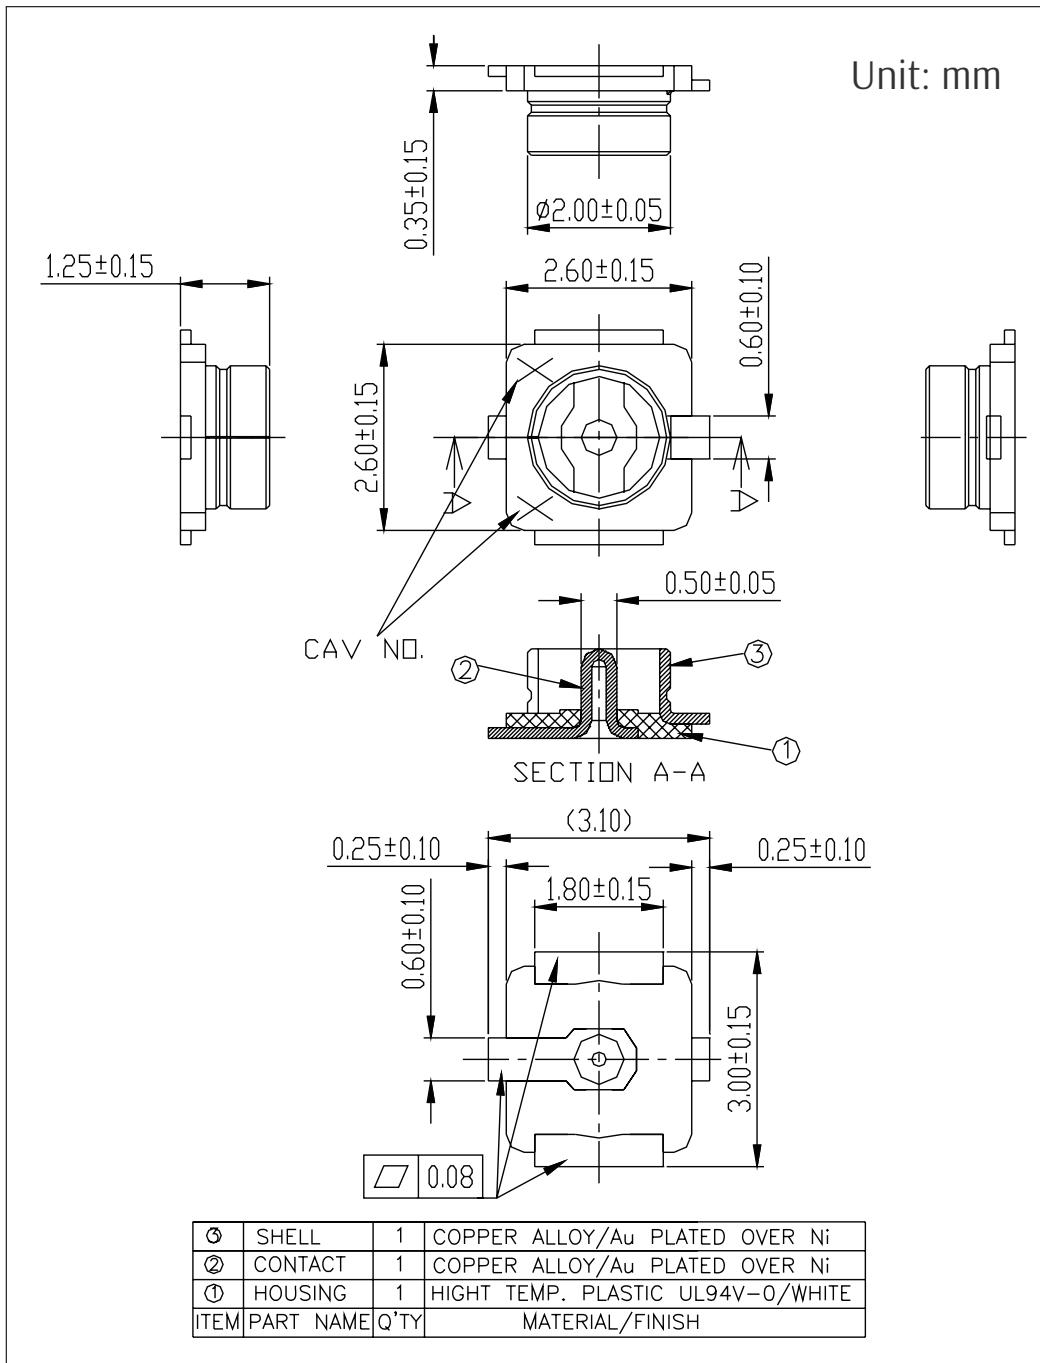

Figure 14: Dimensions of External Antenna Connector
ESP32-WROVER-IE uses the first generation external antenna connector as shown in Figure 14. This connector is compatible with the following connectors:
- The connector matches the specifications shown in Figure 14 Dimensions of External Antenna Connector